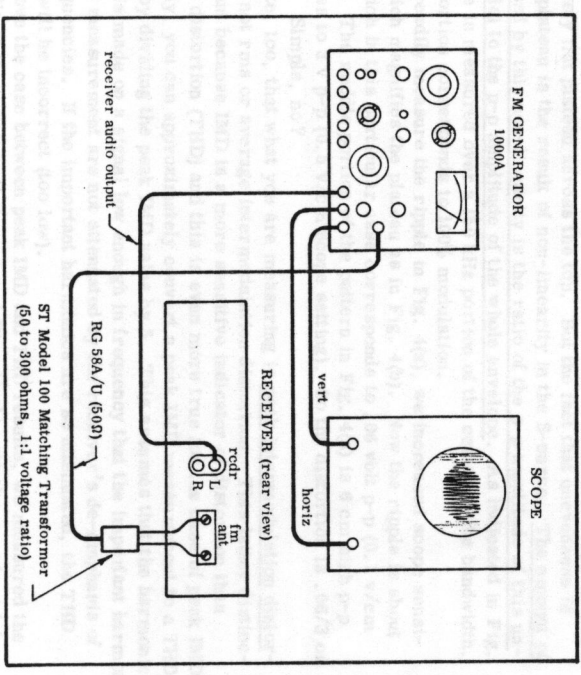

Fig. 3. This one simple setup is all you need to align a receiver and measure its distortion. Note that receiver output is routed through generator.
And there are some other things you can do with the technique that you'll like. Let's first look at how simple and fast it is to check receiver alignment and audio quality (the technique does both). To start with, you merely connect the new generator, the receiver or tuner, and a scope as shown in Fig. 3. It's worth noting that you don't have to remove the receiver cabinet or go inside the receiver at all to check alignment or measure audio quality. The generator connects to the antenna terminals, and the scope connects to the receiver audio output through the generator.
To enable us to look at the amplitude of the 10 kHz signal more clearly, the audio output of the receiver, which resembles Fig. 1(b), is connected to the generator (Fig. 3). There the small 10 kHz signal is separated from the low-frequency sweeping signal, amplified, and fed to the scope for vertical deflection. The vertical amplitude is thus proportional to the slope of the S-curve, i.e., to the small-signal gain of the receiver. The envelope you see in Fig. 1(a) is therefore a plot of the small-signal gain versus carrier frequency.
- (b). Typical receiver S-curve obtained with setup of Fig. 3, except scope vertical input comes directly from discriminator test point. Ripple on curve is 10 KHz produced by generator. This 10 KHz signal, when separated from low-frequency sweep signal, forms alignment pattern shown in Figs. 1(a) and 4.
- (c). All of the usual sweep generator functions are obtainable with the new generator. Here is the typical receiver I-f curve as obtained with the setup of Fig. 3, except that scope vertical input is now taken from receiver I-f test point.